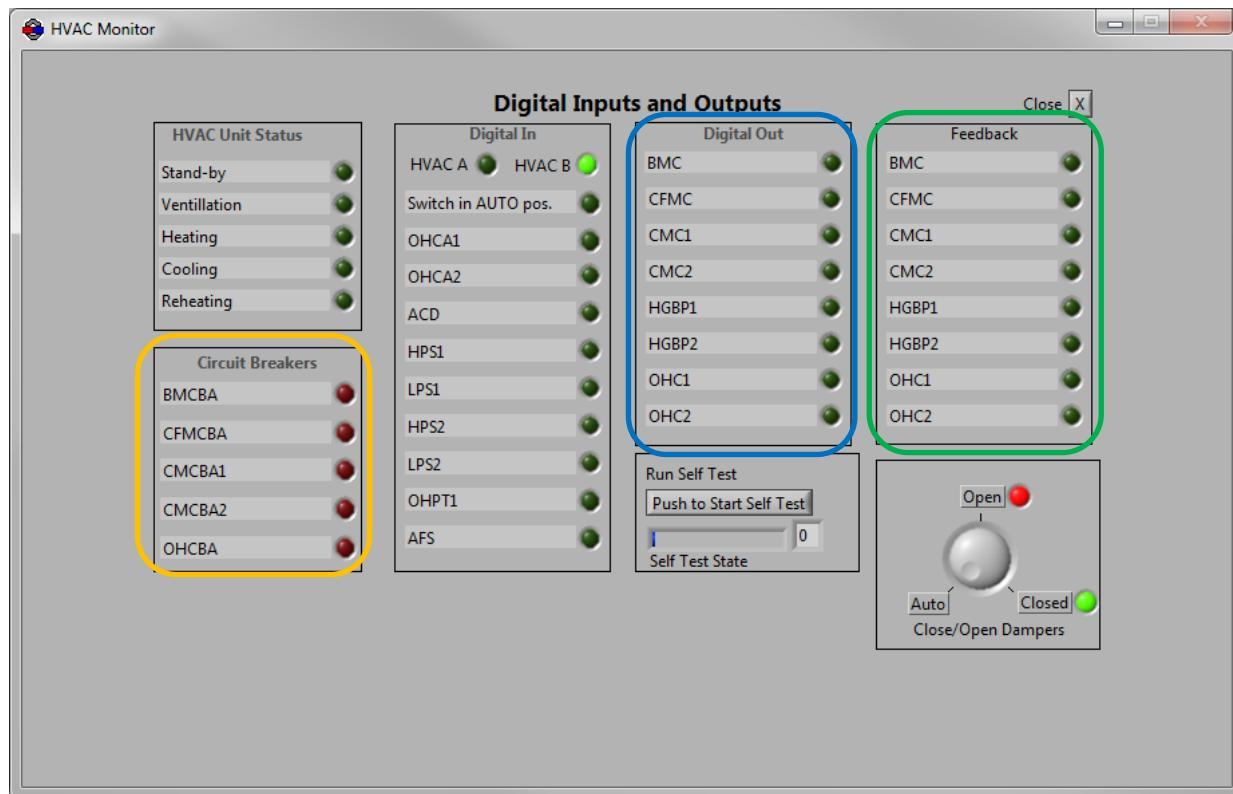

Figure 8-2. HVAC Monitor Screen
4. Verify both compressors are operating by checking “Feedback” (green box) signals on PTU HVAC Monitor screen, Figure 8-2.
7. Monitor both low pressure gauges carefully and verify COMPRESSOR 1 and COMPRESSOR 2 power Off when 20 ± 5 psi is reached. Refer to PTU Monitor screen (Figure 8-2) and verify CMC1 and CMC2 “Feedback” signals (green box) are Off.
7. Monitor both high pressure gauges carefully and verify COMPRESSOR 1 and COMPRESSOR 2 power Off when 415 ± 10 psi is reached. Refer to PTU Monitor screen (Figure 8-2) and verify CMC1 and CMC2 “Feedback” signals (green box) are Off.
5. Verify both compressors are operating by checking “Feedback” (green box) signals on PTU HVAC Monitor screen, Figure 8-2.
8. Monitor both high pressure gauges carefully and verify COMPRESSOR 1 and COMPRESSOR 2 power Off when 435 ± 10 psi is reached. Refer to PTU Monitor screen (Figure 8-2) and verify CMC1 and CMC2 “Feedback” signals (green box) are Off.
8. Monitor both low pressure gauges carefully and verify COMPRESSOR 1 and COMPRESSOR 2 power Off when 12 ± 5 psi is reached. Refer to PTU Monitor screen (Figure 8-2) and verify CMC1 and CMC2 “Feedback” signals (green box) are Off.